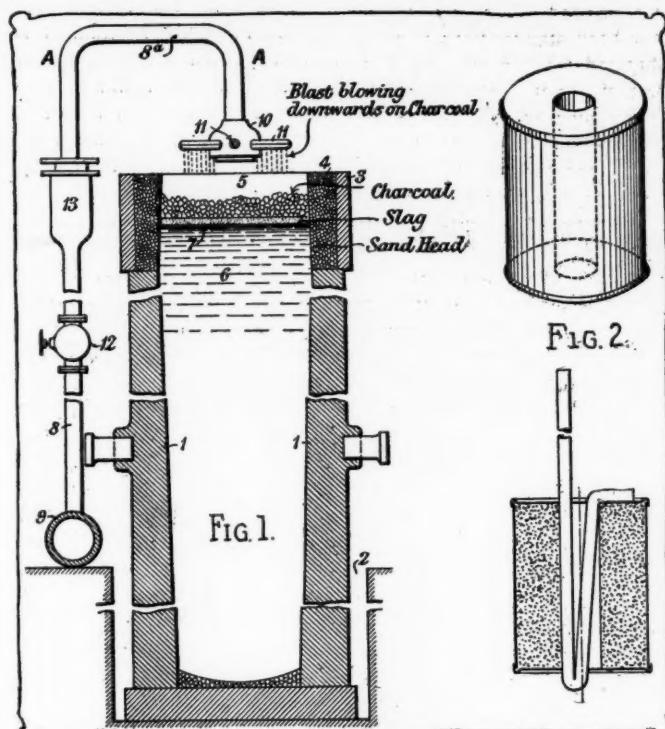

FIG. 1—Hadfield method for producing sound steel ingots. FIG. 2—Thermite cartridge used by Goldschmidt
**S**OUND Steel Ingots.—The constant temptation at steel works and rolling mills to make the discard from steel ingots shorter than it should be has resulted in many fatal flaws in the steel shapes rolled from the top end of an ingot or from a billet of the defective material. In the case of expensive steels, compressive molds have been used to some extent to squeeze the pipe and the blowholes out of the ingot while it is still in the fluid state and to concentrate the segregation of impurities in a small upper layer. Two new methods have now been perfected which are much cheaper and more effective. Sir Robert Hadfield, of the Hecla Works at Sheffield, England, has developed one of these and Dr. Hans Goldschmidt, of Essen, Germany, the other. Both are in the very front rank as practical and successful metallurgists, and the new methods therefore warrant the hope that in the near future defects will be a rarity in the very large bars of steel from which crankshafts and some other automobile parts are forged, although such bars are necessarily rolled from those large-sized ingots in which the defects have been most commonly encountered. The Hadfield method is indicated in Fig. 1. It consists in heating the fluid steel in the upper part of the ingot, or other mold which may be used, and maintaining it in a liquid condition, while the rest of the ingot is cooling, by playing a blast of air into charcoal heaped on top of the molten metal. To prevent loss of heat by radiation from the metal a layer of cupola slag is placed between it and the coal. The general result is that the fluid top-portion of the ingot sinks and fills the pipe as fast as it is formed. Pipes in the lower portions of the ingots are obviated at the same time, as these are also caused by irregularities in the cooling and the molecular flow in the metal and the top-heating regulates this factor to some extent throughout the mass. It is figured from the experience of the past few years, applying to a production of many thousands of tons, that the discard may be reduced from an average of about 20 per cent. to about 7 per cent. with an all-around gain in the quality of the product and that the saving on a large output may amount to from 8 to 12 shillings per ton, the value of the discard metal for remelting being fully considered.